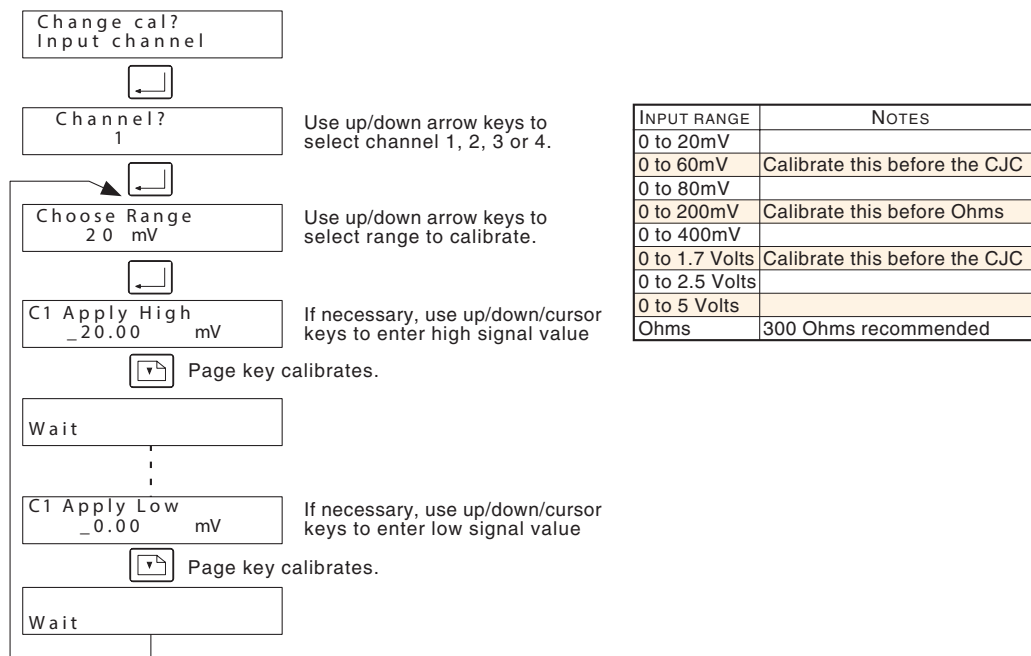

Figure 5.1 Input channel calibration
Input channel calibration allows all the ranges of all the input channels to be calibrated against precision input signals. Figure 5.1 shows the menu structure.
1. Select a channel for calibration, as described in figure 5.1 above. Press Enter.